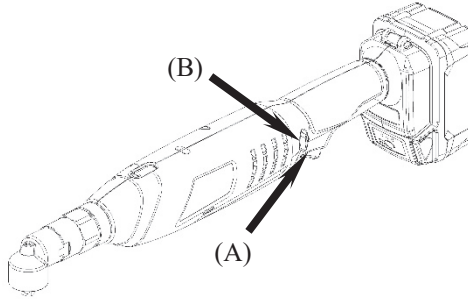

Fig. 7
To select forward rotation, RELEASE THE SWITCH (A) (see Fig. 7), and push the forward/reverse lever (B) (see Fig. 7) toward left side of the tool .
To select reverse rotation, RELEASE THE SWITCH (A) (see Fig.7), and push the forward/reverse lever (B) (see Fig.7) toward right side of the tool .